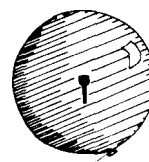
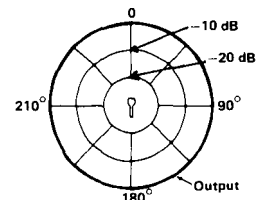

FIGURE 3-
FIGURE 4-
**Omnidirectional Pickup Pattern.** The pickup pattern of an omnidirectional microphone may be represented as an inflated balloon with the microphone at the center, as shown in Figure 3. Usually a polar pattern is used to represent the pickup pattern, illustrated in Figure 4. The polar pattern shows the loss in output (in dB) experienced as a constant-output sound source moves 360 around a fixed microphone at a fixed distance from the microphone.